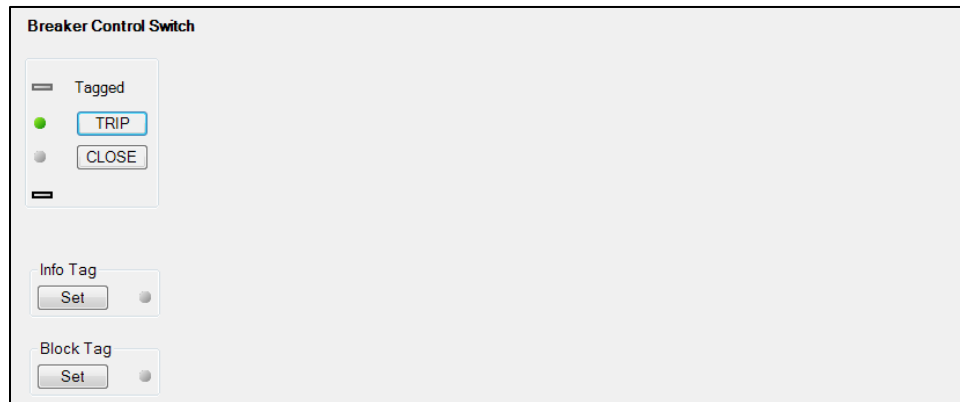

Figure 28-2. Breaker Control Switch Control Screen
1. Use the Metering Explorer to open the Control/Breaker Control Switch tree branch (Figure 28-2).